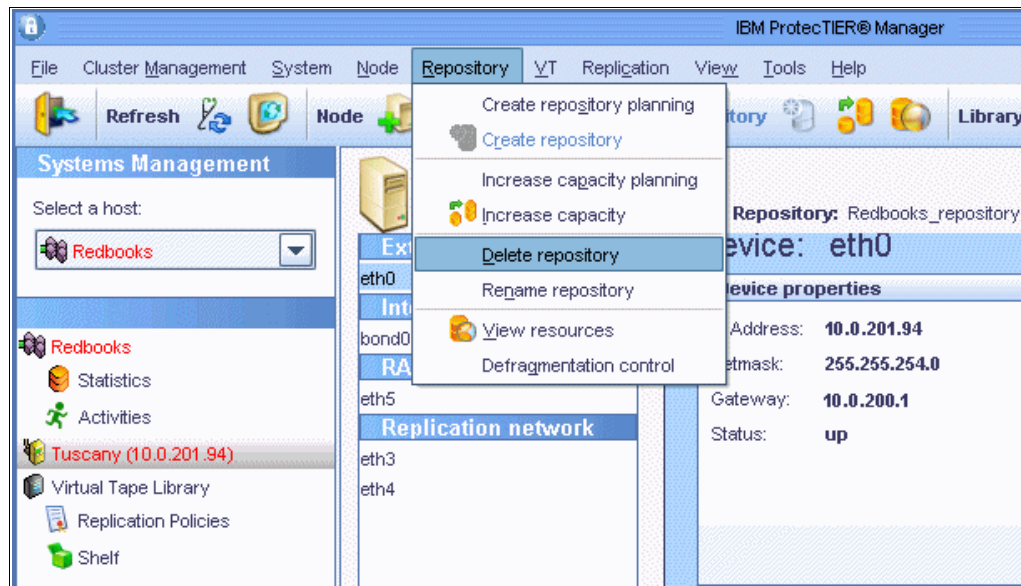

Figure 5-62 Delete ProtecTIER repository
2. Select **Repository** → **Delete repository** (Figure 5-62).